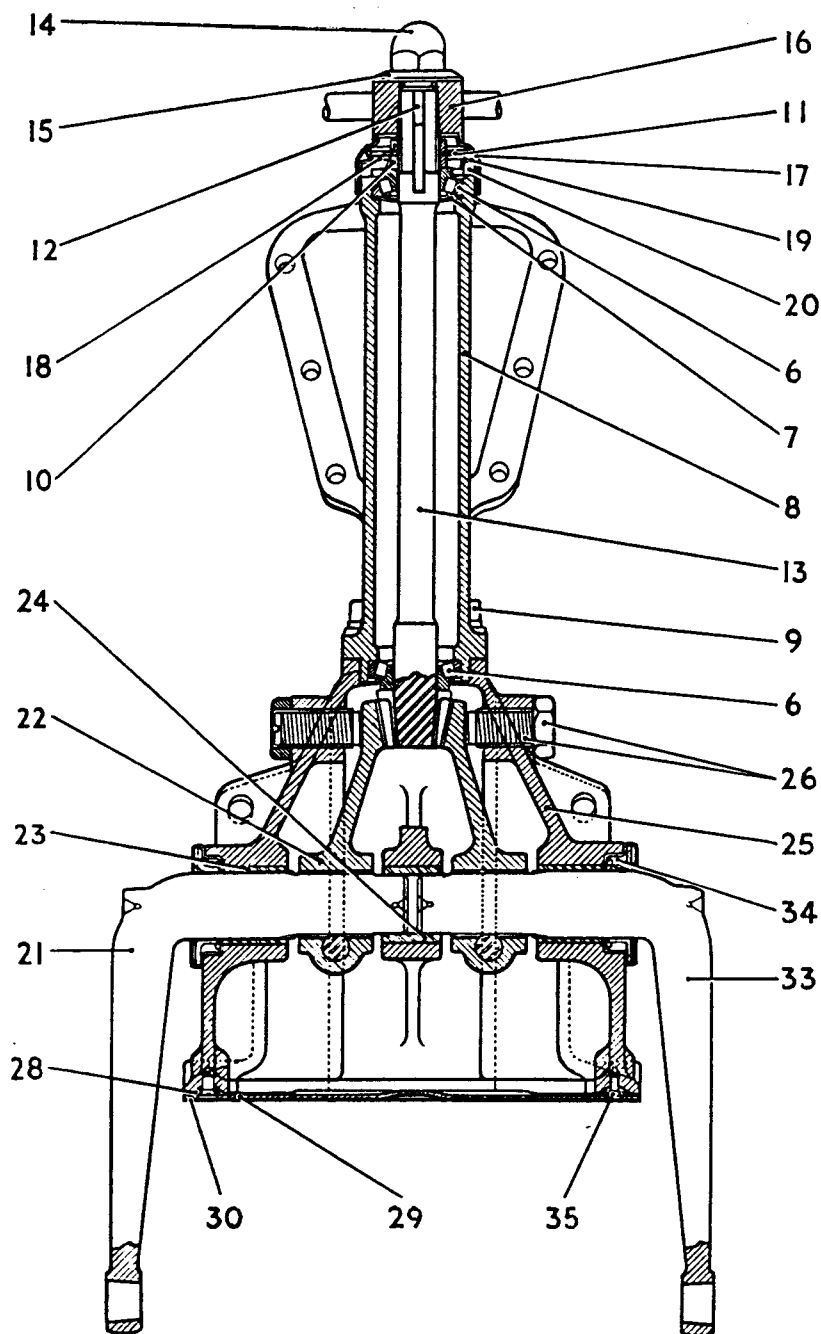

FIG. 1.
Figs. 1 and 2 show cross-sectioned and exploded views of the steering assembly which consists of a spiral bevel pinion and shaft (13) actuating two rack sectors (22) each being linked separately to a front wheel. The pinion shaft, mounted in two thrust roller bearings (6), is keyed to the
steering wheel (16) and with housing (8) forms the upper assembly, while the lower assembly consists of sectors (22), splined to drop arms (21) and (33), mounted in bushes (23) in outer walls of lower housing (25) and in a common bush (24) in centre web. During dismantling, reference can be made to Figs. 1 and 2.